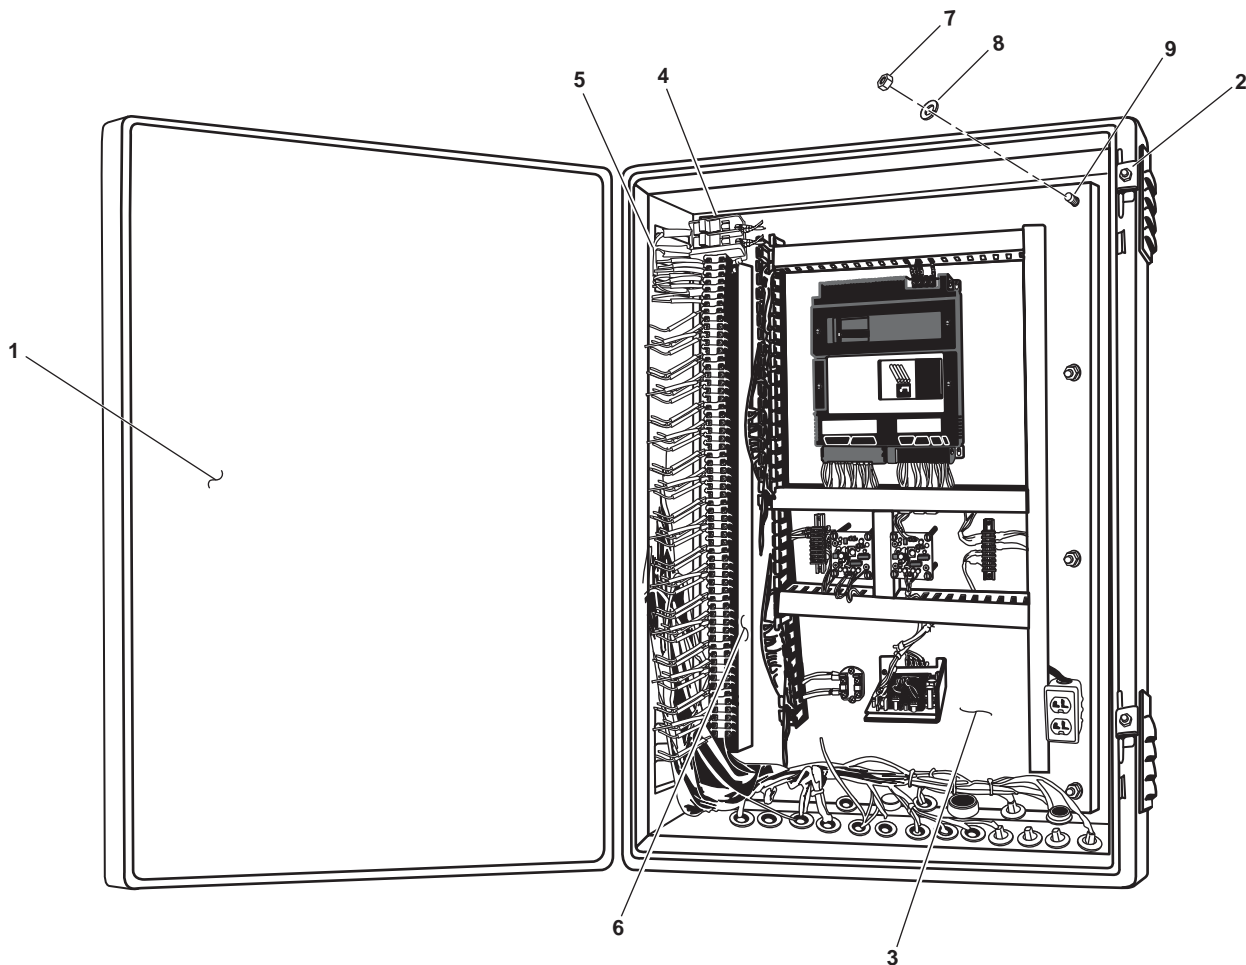

Figure 1. Towing Machine Control Panel
1. Open the control panel door (figure 1, item 1) by loosening the two locking clamps (figure 1, item 2).
2. Using a multimeter, check the control panel (figure 1, item 3) for voltage at the fuse block (figure 1, item 4). If voltage is present, secure the proper circuit breaker and ensure that it is locked out and tagged out (FM 55-502). If there is no voltage present, continue with the procedure.
3. Label and disconnect the wiring (figure 1, item 5) and remove it from the terminal block (figure 1, item 6).
4. Remove the eight nuts (figure 1, item 7) and the eight lockwashers (figure 1, item 8) from the studs (figure 1, item 9). Discard the lockwashers.
5. Remove the control panel (figure 1, item 3) from the studs (figure 1, item 9).
1. Install the control panel (figure 1, item 3) on the studs (figure 1, item 9).
2. Install the eight nuts (figure 1, item 7) and eight new lockwashers (figure 1, item 8) on the studs (figure 1, item 9).
3. Route the wiring into the control panel (figure 1, item 3) and connect it to the terminal block (figure 1, item 6) using the labels from step 3 of Removal as a guide. Remove the labels.
4. Close the control panel door (figure 1, item 1) and tighten the two locking clamps (figure 1, item 2).